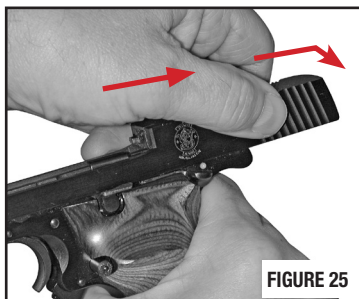

FIGURE 25
- Place the slide onto the frame and pull the slide as far back as you possibly can to engage the slide rails with the tracks in the frame (FIGURE 25).